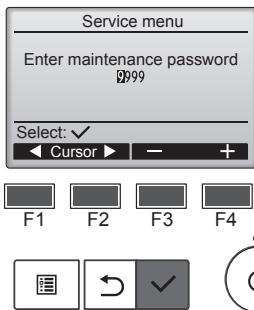

Fig. 7-3
- ① Select “Service” from the Main menu, and press the button.
- ② When the Service menu is selected, a window will appear asking for the password. (Fig. 7-3)